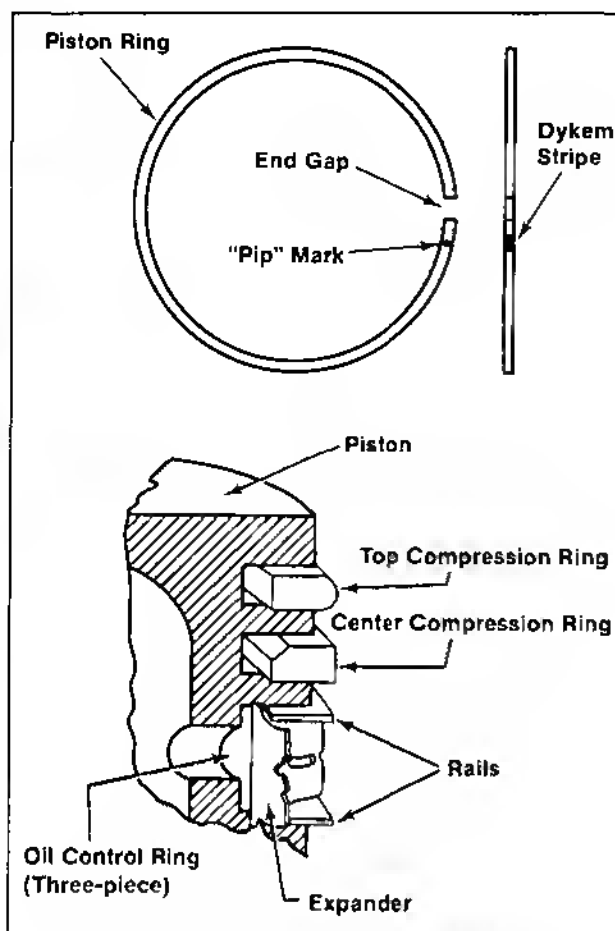

Figure 10-15. Piston Ring Installation.
**NOTE:** Rings must be installed correctly. Ring installation instructions are usually included with new ring sets. Follow instructions carefully. Use a piston ring expander to install rings. Install the bottom (oil control) ring first and the top compression ring last. Refer to Figure 10-15.